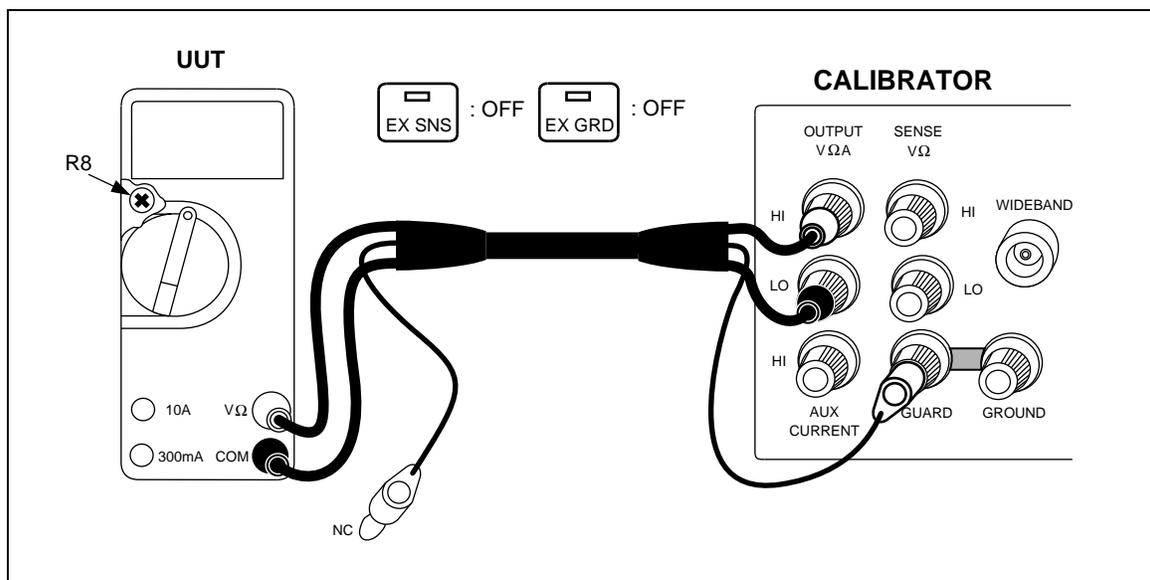

Figure 4-12. Cable Connections for Calibrating a Fluke 70-Series DMM
3. Connect a set of test leads to the DMM as shown in Figure 4-12.